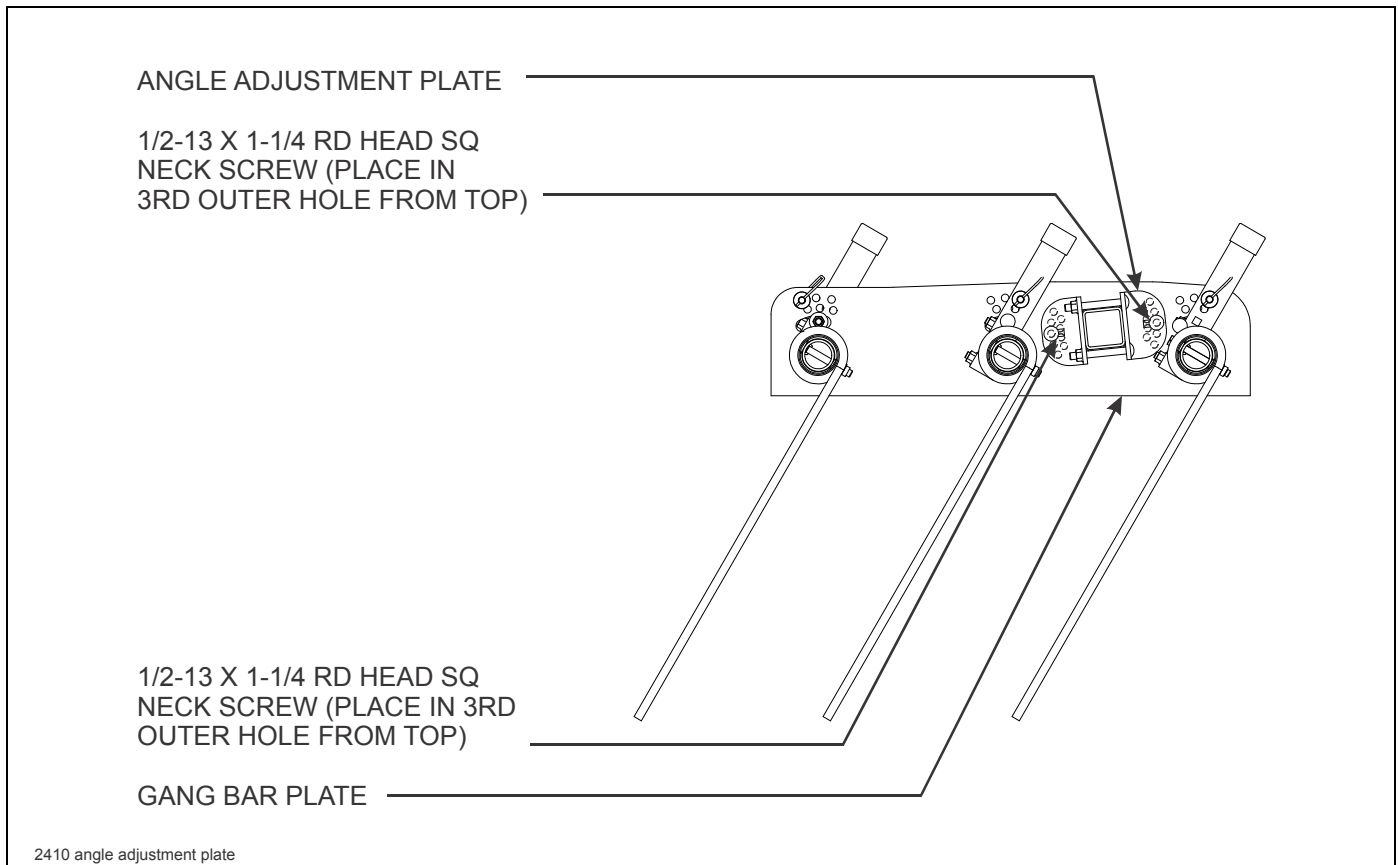

Figure 3-32: Angle Adjustment Plate Installation
6. Install 1/2-13 x 1-1/4 round head square neck screws through angle adjustment plate and gang bar plate as shown in Figure 3-32.